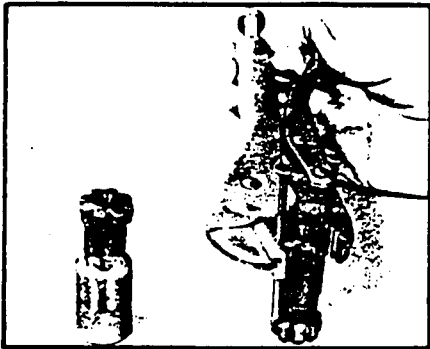

Figure 62
NOTE: A special tool (See Page 7A) or the drive link (8) held in large locking pliers between two rods or nails to protect the drive link splines (SEE FIGURE 62) will be required to rotate the rotor in the following procedure.